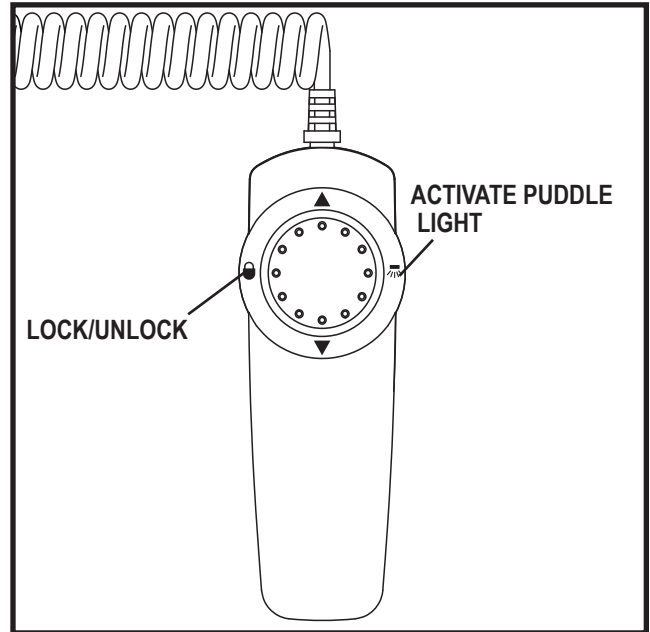

Figure 16. Hand Control
1. To activate the puddle light, press the button on the right side of the lift system hand control for 1 second (**see figure 16**), then release. The puddle light will activate. The puddle light will remain active while the lift system is in use and for 10 seconds after the lift system stops.